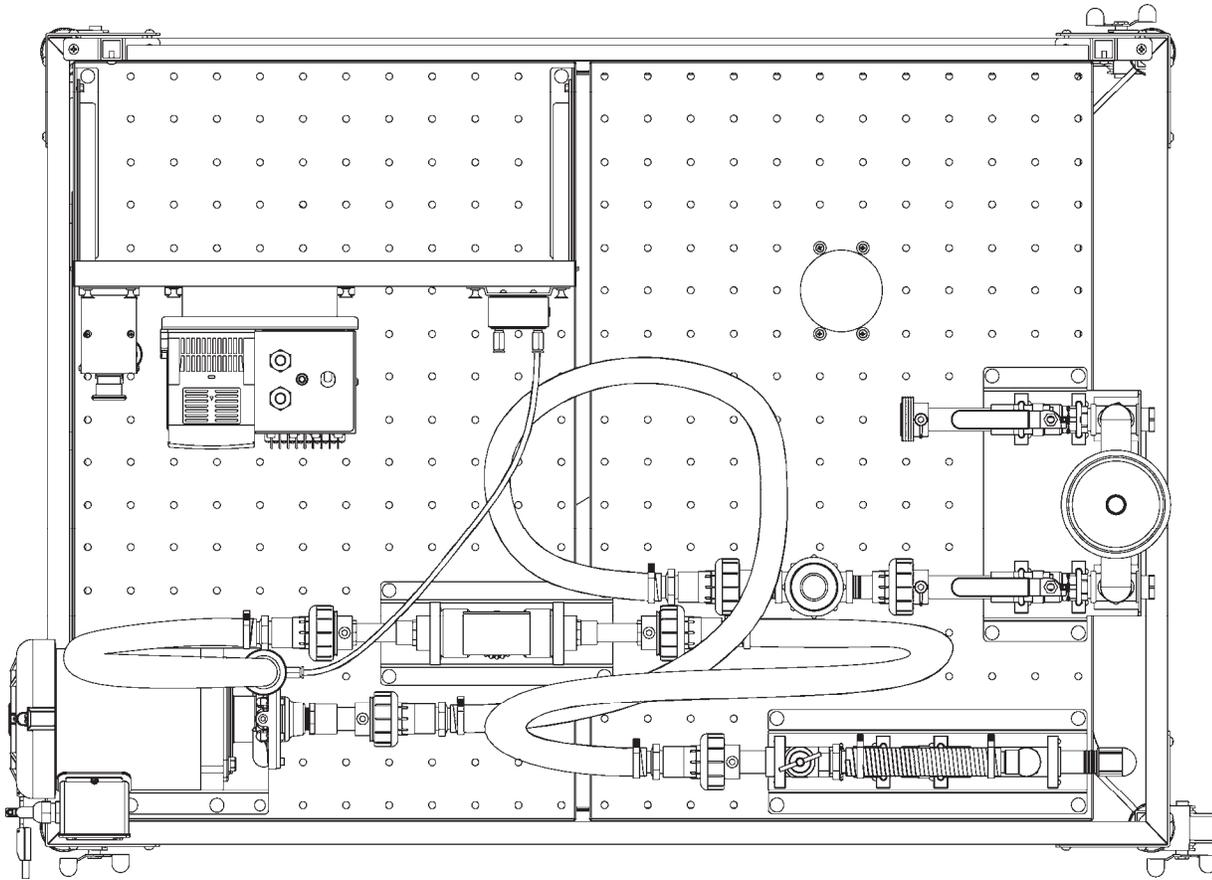

Figure 6. Circuit using a C-face Centrifugal Pump.
1. Setup the circuit shown in Figure 6.